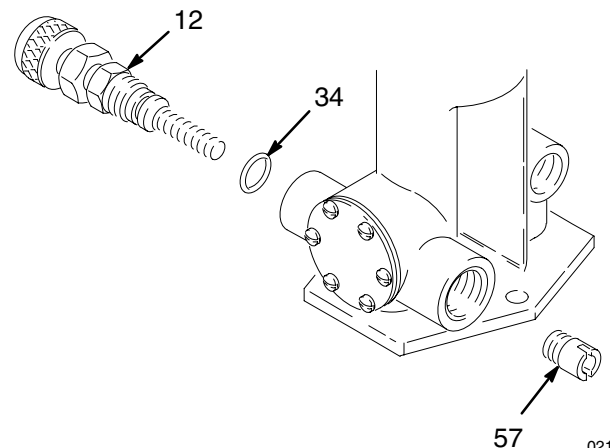

Fig. 8
1. Remove the stem (12) and o-ring (34) from the base. See Fig. 8.
2. Remove the seat (57) from the pump return port with a screwdriver.
- 2 Minimum 0.8 mm (0.032 in.) clearance between washer (37) and piston shaft shoulder.